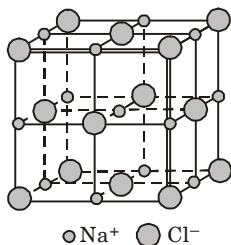

Fig. 6. Rock salt structure.
1. (Fig. 6) shows the arrangement of anions and cations.